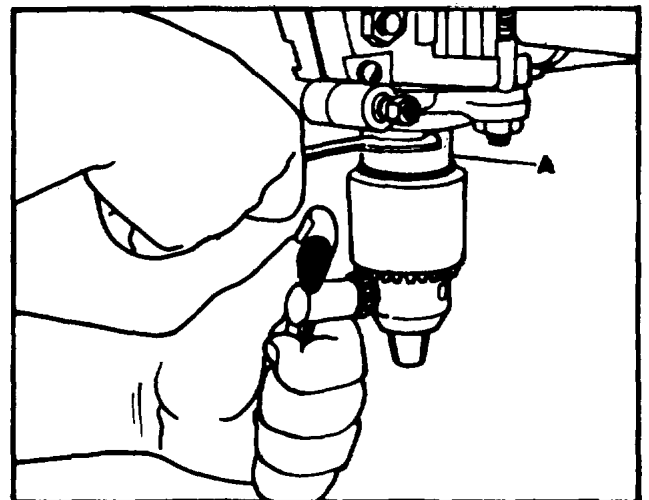

Figure 12. Locking Collar
When removing either the chuck or the spindle adapters, we recommend the use of the Cat. No. 15-838 spanner wrench which is supplied with Key Chuck Drill Presses. Turn the locking collar of the adapter or chuck with the spanner wrench while keeping the spindle from turning by either holding belt or holding the chuck with the chuck key in one of the pilot holes in the nose of the chuck, as shown in Fig. 12.
When attaching adapters to the spindle, it is very important to wipe clean both the spindle taper and taper hole in adapter. Then place the adapter on the spindle and tighten the locking collar (A) Fig. 12.